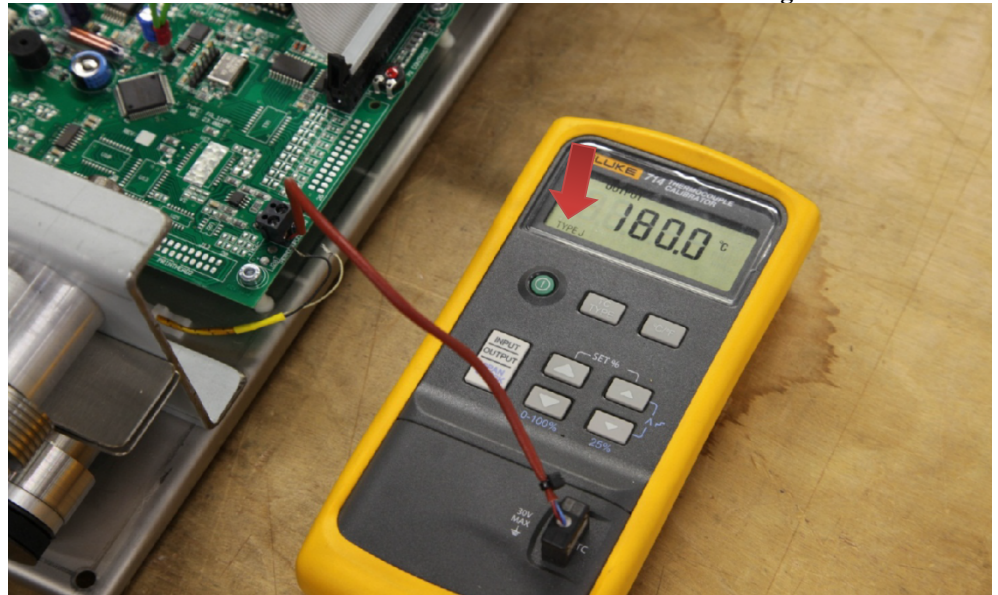

Figure 3
7. Connect the thermocouple simulation device and set it to Thermocouple Type J and at 130°C. Switch on the heat sealer and wait for 10 seconds. **Fig. 3**